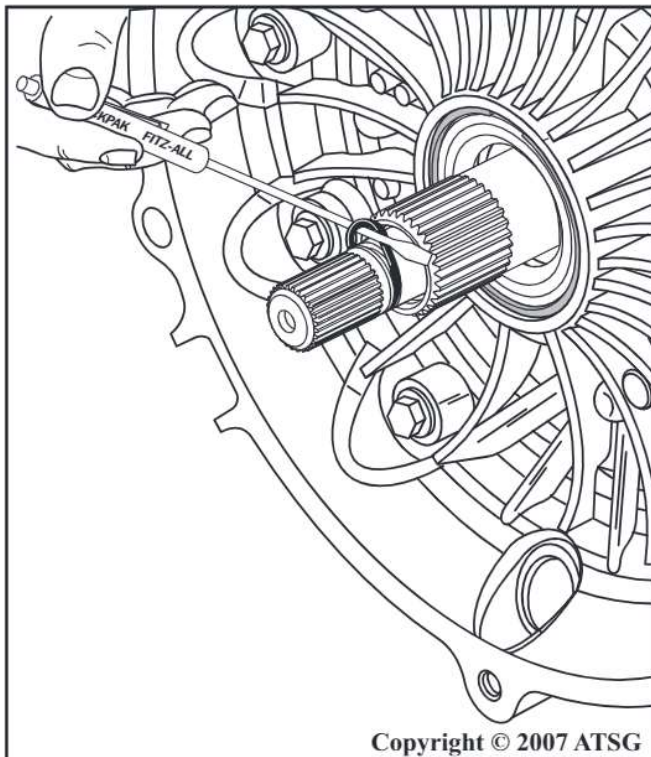

Figure 43
2. Remove the "O" ring from the turbine shaft, as shown in Figure 43.